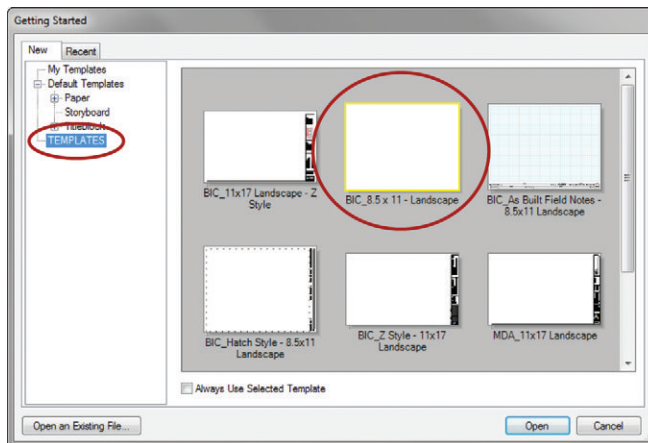

Figure 15.25 The Getting Started window
1. Open LayOut. Select the BIC_8.5 x 11_Landscape template (Figure 15.25).